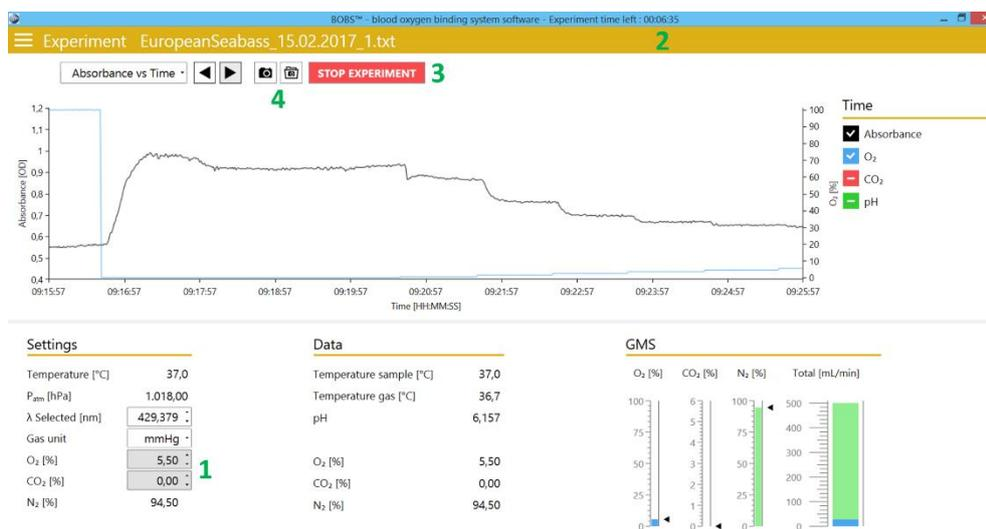

Figure 25: Automatic experiment.
8. The experiment will no run and terminate automatically according to the loaded protocol. Gas concentrations cannot be modified. Remaining ramping (1, visible on hover) and total time of experiment (2) are displayed (Figure 25). To abort the experiment, click on `Stop experiment` (3, Figure 25). Click the camera symbol to take screenshots (4, Figure 25).